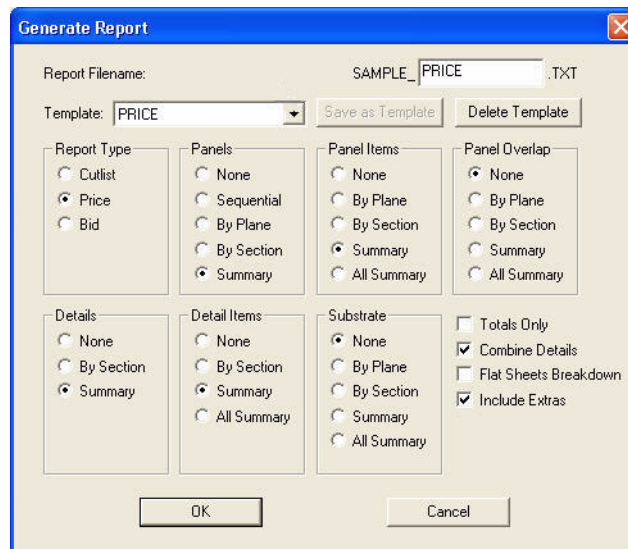

Figure 1-15 The Generate Report window
The **Generate Report** window appears, as in Figure 1-15.
3. Select **PRICE** from the **Template** drop-down menu, and make sure that your settings match those in Figure 1-15.